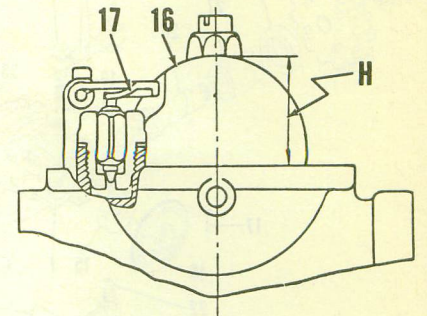
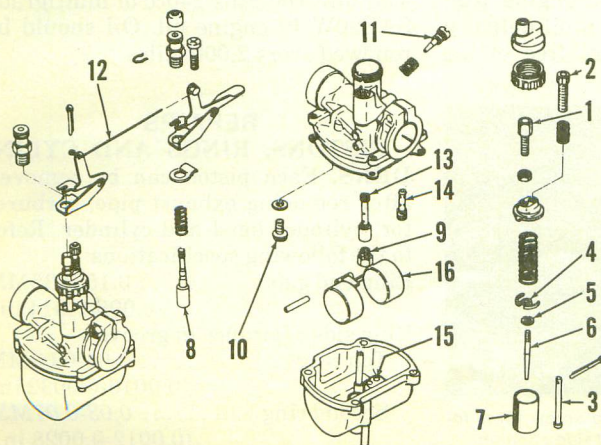

Fig. Y8-2—Float level (H) is adjusted by bending tang (17).
Fig. Y8-1—Exploded view of Mikuni VM carburetor. Starting valves for both carburetors are connected with rod (12).
CARBURETORS. Two Mikuni VM carburetors are used. Idle speed should be set at approximately 1,200 rpm by turning adjusters (2—Fig. Y8-1). Make
Float level (H—Fig. Y8-2) should be 25.4MM (1 in.) and is adjusted by bending tang (17) on float. Refer to Fig. Y8-1 and the following standard specifications:
- Main jet (9) #160 or 170
- Pilot jet (14) #30
- Needle jet (13) 0-2
- Valve needle (6) 5D1
- Clip (5) in second or third groove from top of needle (6).
cable guides (1—Fig. Y8-1) are correctly set. To adjust the throttle cable guides, turn the idle speed adjusters (2) all the way down, then synchronize cable guides (1) so that both throttle slides (7), begin to move at exactly the same time when the hand grip is turned. The throttle cables should have approximately 1/16-inch free play after they are synchronized. Adjust the idle speed to 1,100-1,300 rpm by turning both idle adjusters (2). Make certain that both throttle slides stop at exactly the same time. Turn the throttle hand grip just enough to take up free play from the throttle cables (without changing idle speed) and check the oil pump setting mark and guide pin as shown in Fig. Y8-5. If the mark (1) is not exactly aligned with guide pin (2); loosen the lock nut and turn the pump cable adjuster (3) as required to align.